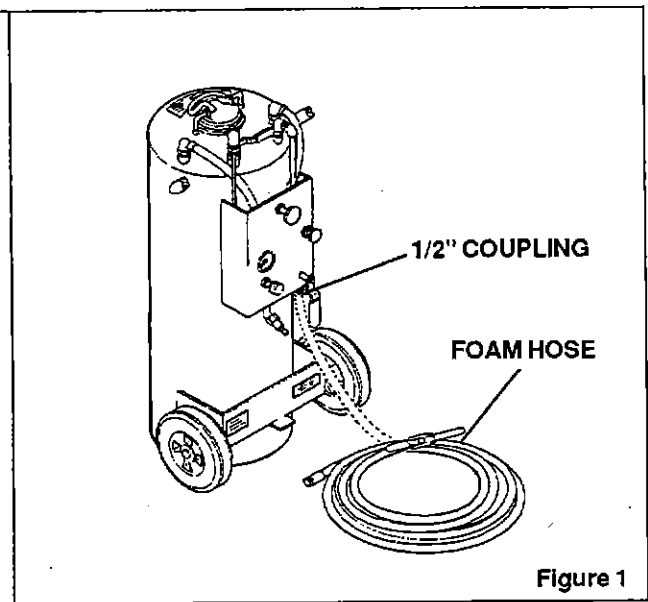

Figure 1
2. Connect the foam hose to the 1/2" (12.7 mm) coupling on the control panel close to the tank on/off valve, refer to Figure 1.